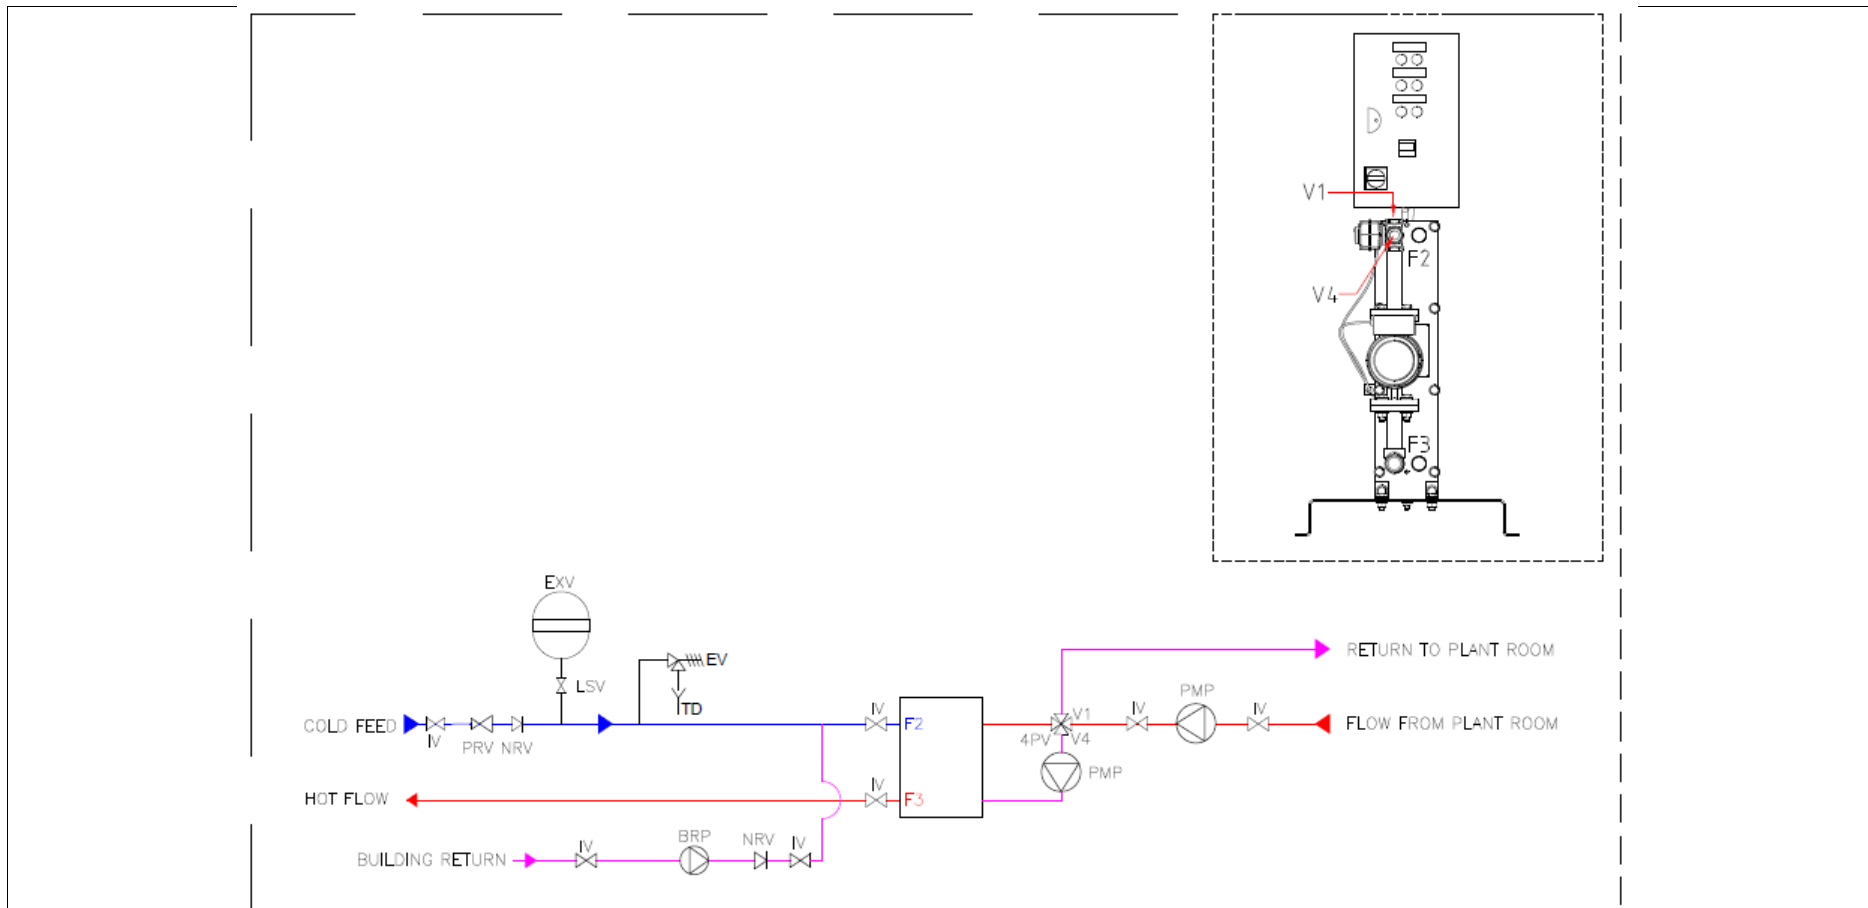

FIGURE 3: PLATE HEAT EXCHANGER INSTANTANEOUS WATER HEATING
9.2 STORAGE VESSELS: See figure 3
The pump installed on the LOK unit is designed to pull water from the heating circuit to the primary side of the plate, a separate primary DHW pump will need to be supplied and installed to feed the LOK unit from the primary LTHW header.(as shown in figure 3 and 4)